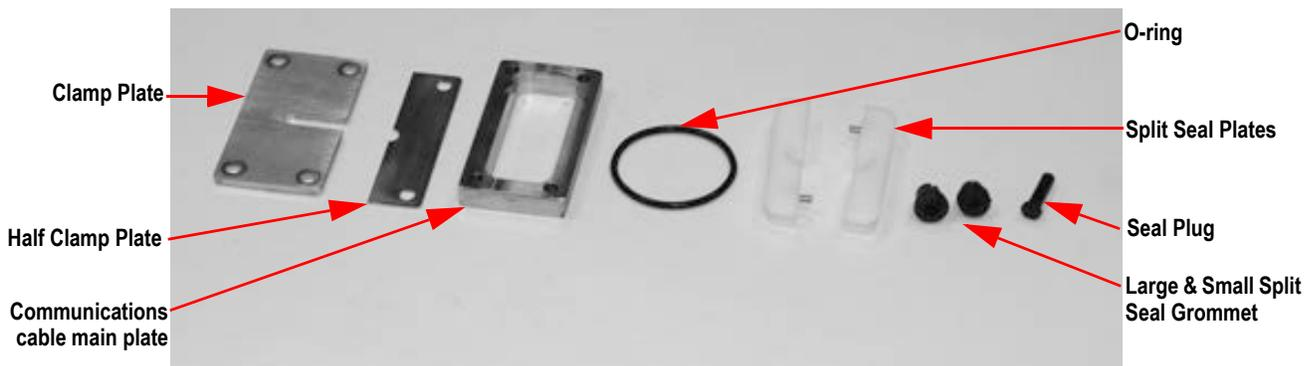

Figure 2-4. Component Pieces
4. The communications cable plate is made up of several individual pieces (Figure 2-4).